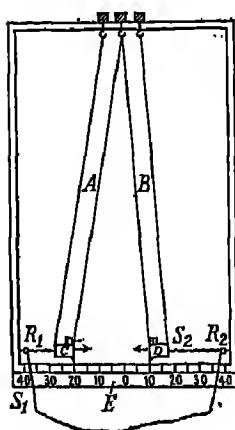

FIG. 132. Ballistic balance.
**Expt. 222.** *A* and *B* are two long pendulums (Fig. 132) supporting two platforms *C* and *D* from a framework. *C* and *D* may be pulled aside, by means of the strings *S*1 and *S*2, passing through the rings *R*1 and *R*2, and their distances from the centre can be measured on the horizontal scale *E*. These measurements are facilitated by pointers fixed to the inside edges of *C* and *D*. Projecting pins and a layer of cork are fitted to the platforms so that when they collide, on releasing the strings, the pins stick into the cork and the platforms remain together acting as inelastic bodies. The masses of *C* and *D* must be known so that when various masses are placed on the platforms the total mass of each may be known. We need to know also the velocities of *C* and *D* at the instant of impact. It can be shown that, *when the pendulums are long compared with the horizontal distances moved the*
method. It is interesting theoretically. Suppose  $C$  (in Fig. 132) is 10 lb., and  $D$  of unknown weight. Allow  $C$  and  $D$  to collide starting 12 inches from the middle of the scale, and suppose  $C$  and  $D$  continue together to the right. Then,